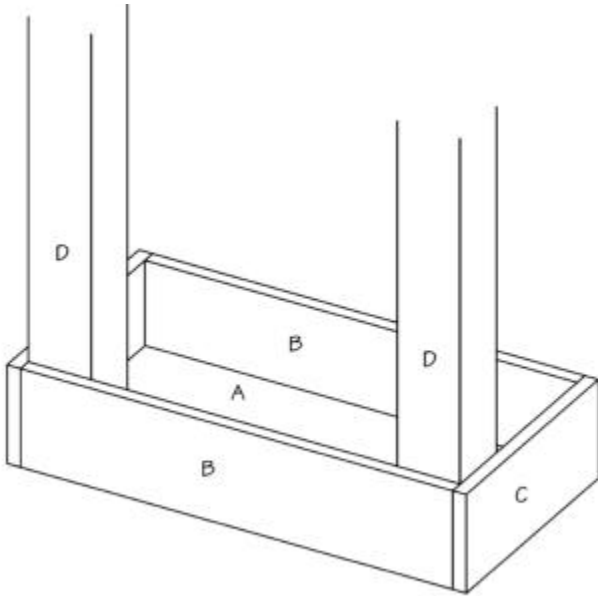

Figure 2
5. Place the two sides (C) over the ends of the two front/back (B), as shown in *Figure 2*. Apply glue on the meeting surfaces, and screw through the sides (C) into the ends of the front/back (B), using three 1-1/2-inch screws on each joint.
1. Trim the two legs (D) to 39 inches long.
2. Place the legs (D) inside the table assembly, as shown in *Figure 2*. Note that both legs (D) are attached to the same front (B). Apply glue on the meeting surfaces, and screw through the front (B) and sides (C) into the legs (D) using two 2-1/2-inch-long screws on each joint. After driving each screw, use a try square to make sure that the legs (D) remain at right angles to both front (A) and side (C). Also screw through the top (A) into the legs (D) using two 2-1/2-inch screws on each leg (D).